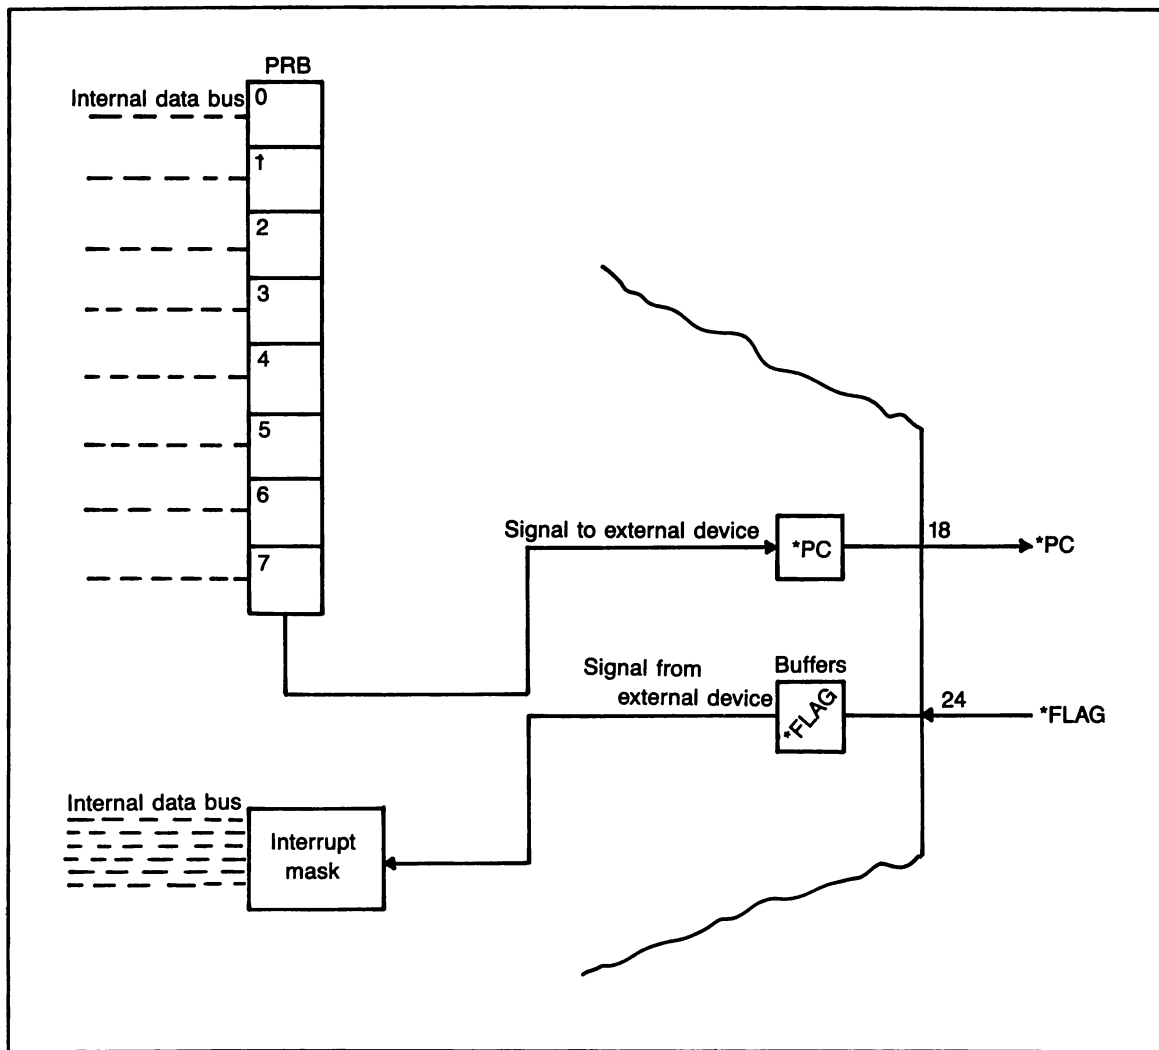

Fig. 16-3. *PC and *FLAG of the CIA are an output and an input that is used during handshaking.
*FLAG is an input pin that connects to the internal data bus of the CIA and, therefore, to the inputs of both the A and B port circuits. *PC is an output pin that exits only from the B port through a special *PC buffer stage. *PC will output a low for one cycle after any read or write of the B port. Refer to Fig. 16-3. During handshaking, this automatic low can be used to talk to another device. The signal could be code saying, “data is ready” or “data has been received.”